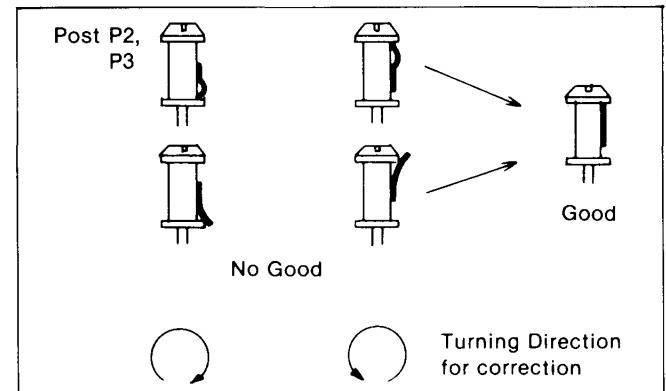

Figure M7
8. If there are waving or frilling at the lower or upper edge of the P2 and P3 posts, readjust the heights of P2 and P3 Posts correctly as shown in Figure M7.